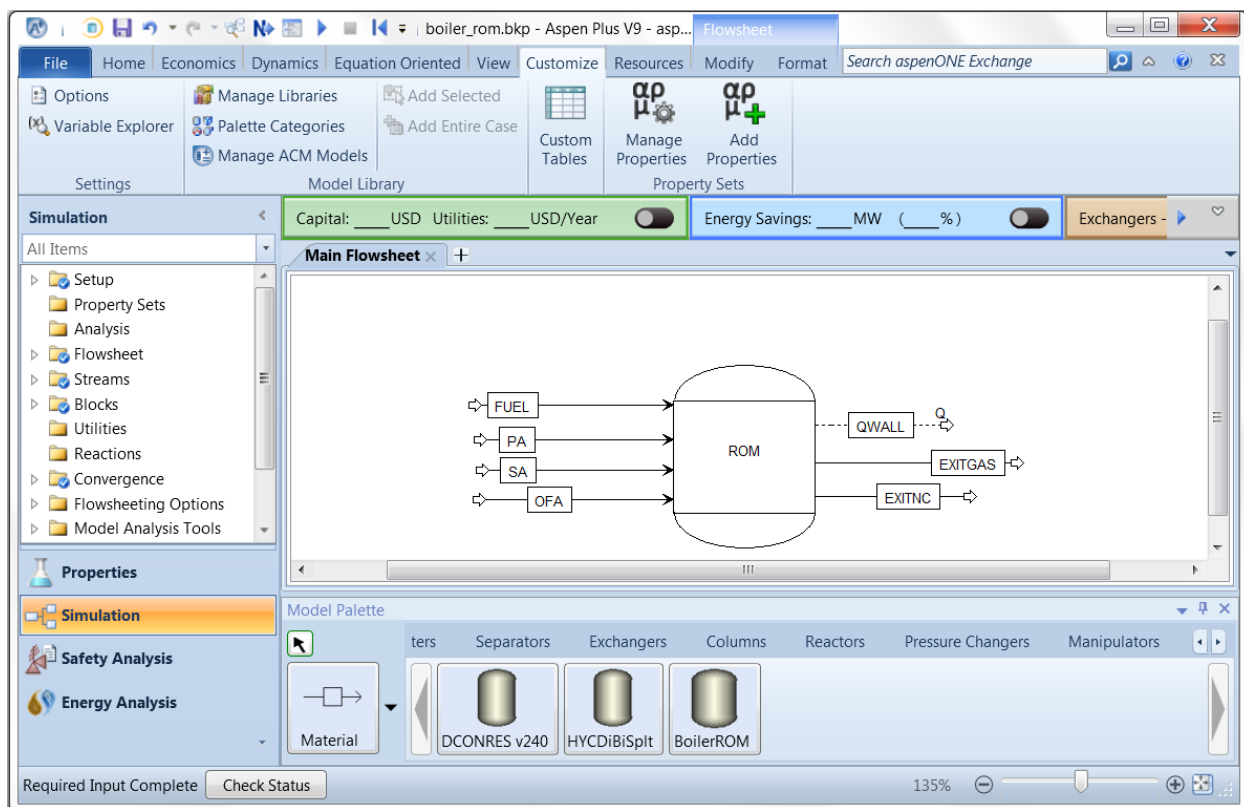

Figure 5: Aspen Plus Flowsheet With Feed and Product Streams Connected to ROM Block
8. Connect Stream EXITGAS to the “ROM” block. In the “Universal Port” dialog window that displays, select the “FlueGP(OUT)” port. Then connect Stream EXITNC to the “ROM” block. No “Universal Port” dialog window displays and Stream EXITNC is connected to the “FlySP0(OUT)” port. Finally, connect heat stream QWALL to the “ROM” block. Figure 5 shows the flow sheet with the streams connected to the “ROM” block.